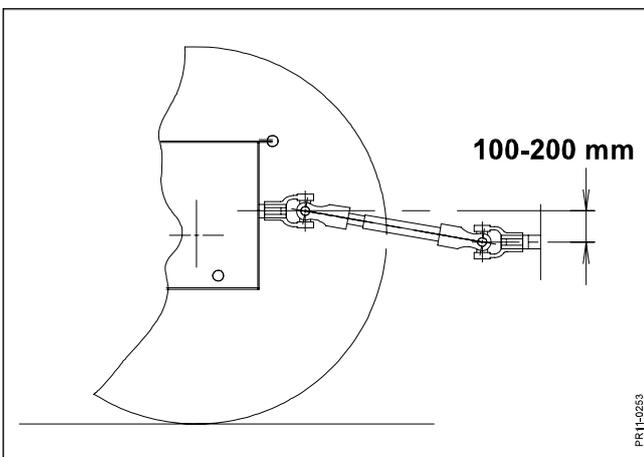

Fig. 2-17
- Fig. 2-17:** Fix the working position of the bevel gear. The PIC (Power Intake Connection) must be 100 - 120 mm lower than the PTO of the tractor (= approx. 10°).